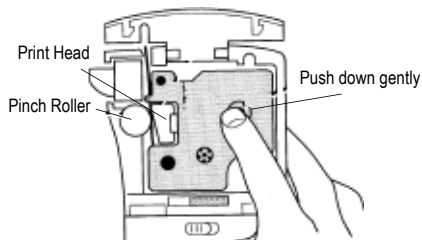

Figure 3
3. Insert the cassette with the label and ribbon positioned between the print head and pinch roller. See Figure 3.